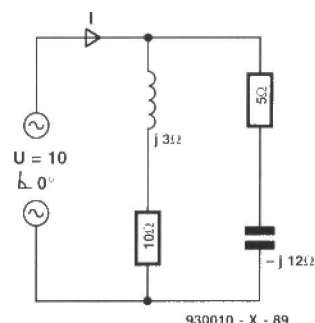

Fig. 89.
We shall now see how to calculate the power factor of a circuit as in **Fig. 89**. If you have a circuit with impedances marked in ohms, henrys and farads, the first step is to calculate the com-
6. Given the circuit of **Fig. 89**, calculate the power factor when the frequency is doubled.